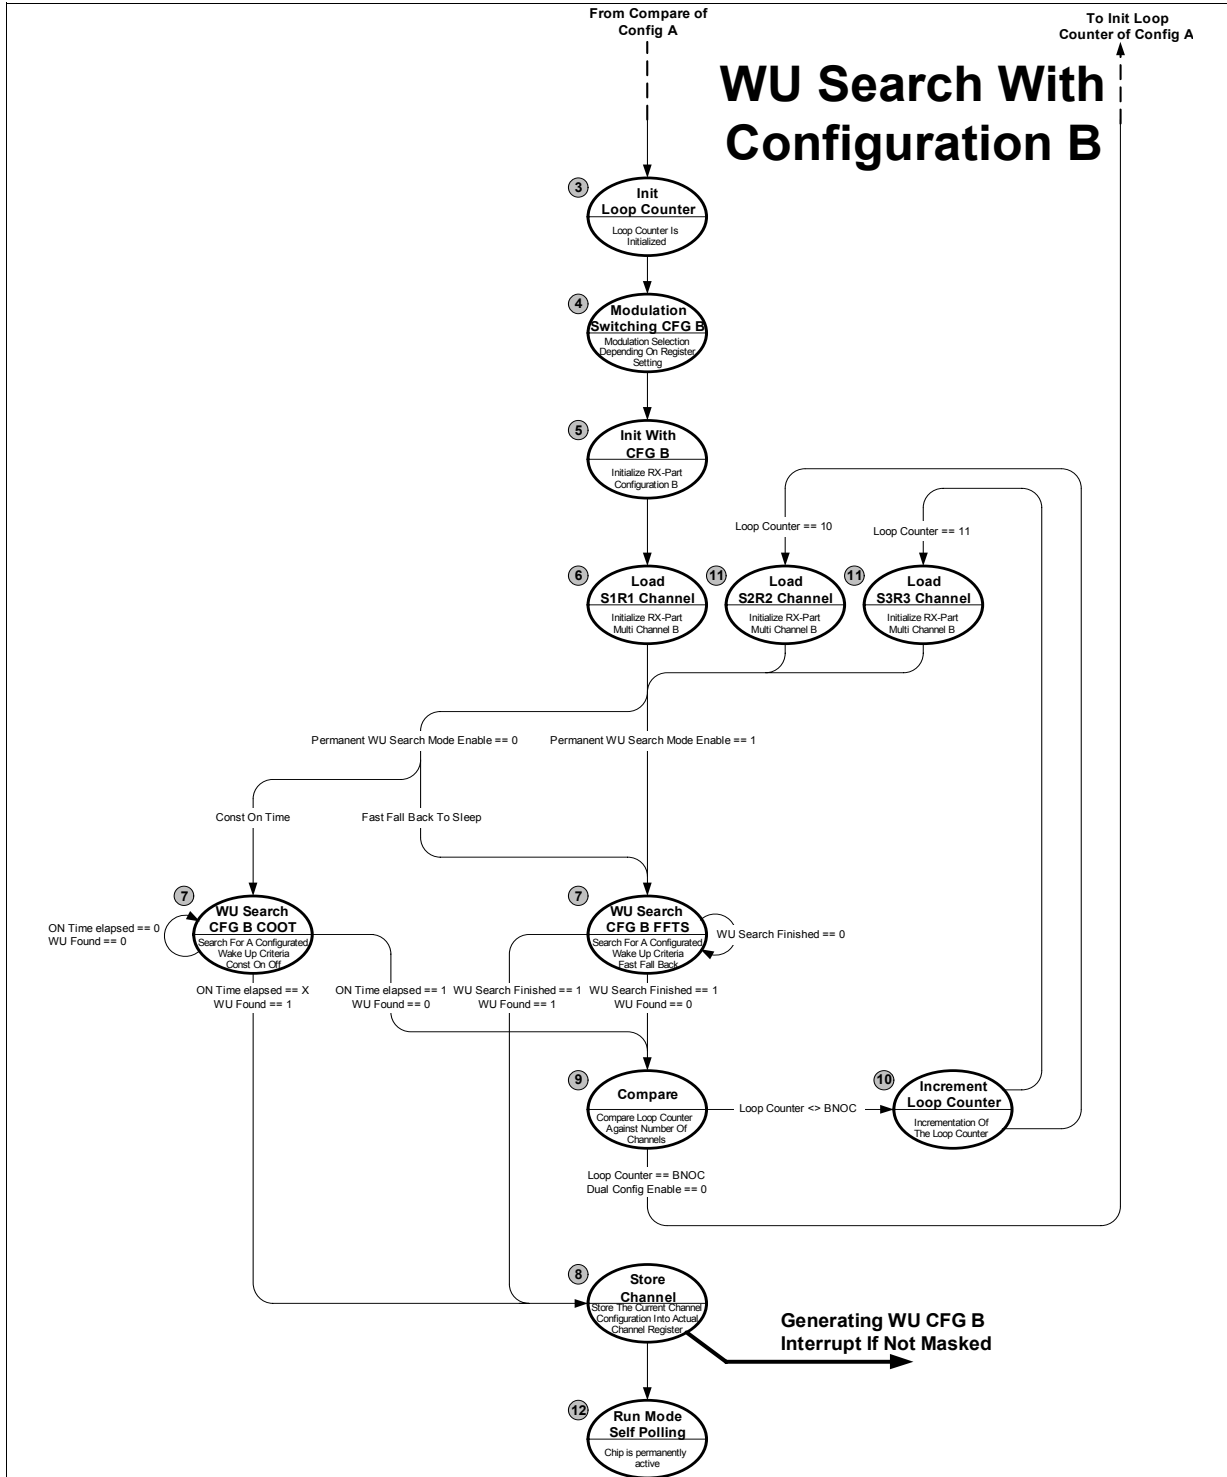

Figure 21 Wake up Search with Configuration B
- 9.) **Compare:** If the loop counter equals the number of channels selected by the SFR control bit ANOC, the next state of the chip will be the **Idle state**, unless dual configuration is enabled by the SFR control bit DCE. In this case, the next state will be **Init Loop Counter** in Figure 21 . In all other cases, the chip resumes operation in the **Increment Loop Counter** state.